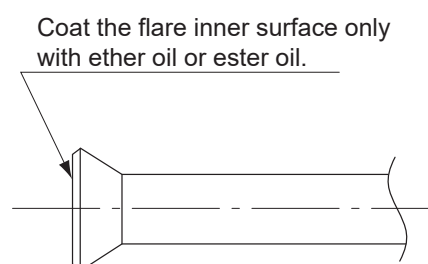

Fig. 8
- When connecting the flare nut, coat ether or ester oil only to flare inner surface, and initially tighten by hand 3 to 4 turns before tightening firmly. (Fig. 8)